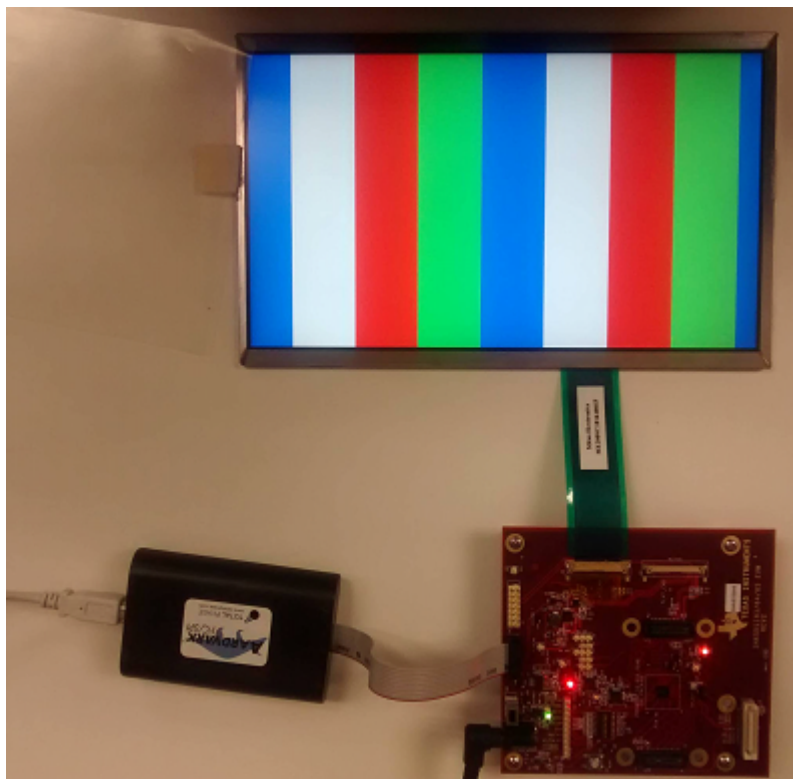

Figure 1. Test Pattern
2. Check to see if the test pattern can be displayed correctly. If it does not look like the test pattern in Figure 1 then most likely something is wrong with either the register configuration or the video timing parameters.